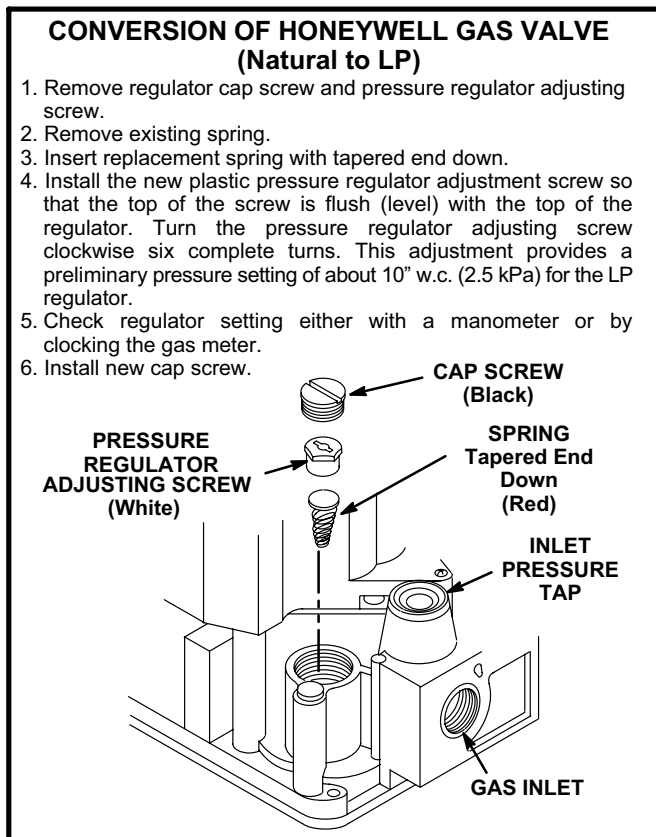
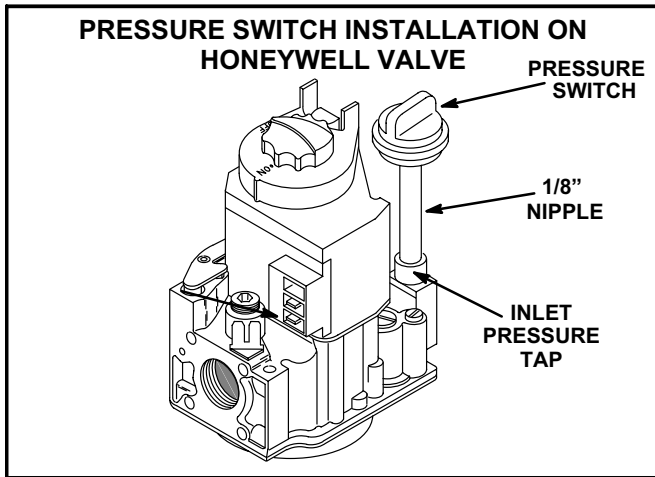

FIGURE 2
FIGURE 5
- 5 - Install gas valve conversion kit. Refer to manufacturer's instruction packed in valve conversion kit. See figures 2 and 3.
- 17- Remove cap screw from inlet pressure tap on gas valve. Apply pipe thread compound to threads of the 1/8" BIP nipple and screw the pressure switch/BIP nipple assembly into the inlet pressure tap on the gas valve. See figures 2 and 3 for gas valve inlet pressure tap location. Figures 5 and 6 show installed pressure switches.
- 2 - After gas line pressure has been checked and adjusted, check manifold pressure at the pressure tap on the outlet side of the gas valve. The correct manifold pressure for LP/propane gas is shown in table 1. Refer to figures 2 and 3 for gas manifold pressure adjustment screw location.